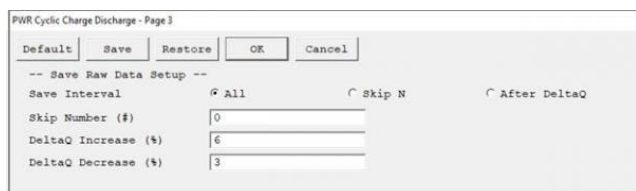

Figure 5- Page 3 of the CCD setup screens
- f. Click "OK" to move to Page 3 of the setup screen. See figure 5.